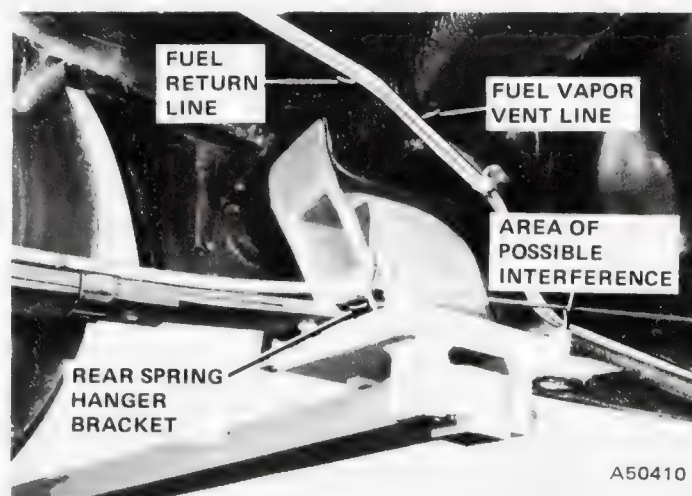

Fig. A-9 Left Rear Lift Point—Pacer Shown
**CAUTION:** When lifting the car, be sure the floor jack or frame contact-type lift does not damage any fuel lines or brake lines (figs. A-9 and A-10).
The rear lift points are located ahead of the rear wheels at the rear spring hanger brackets (figs. A-9 and A-10).